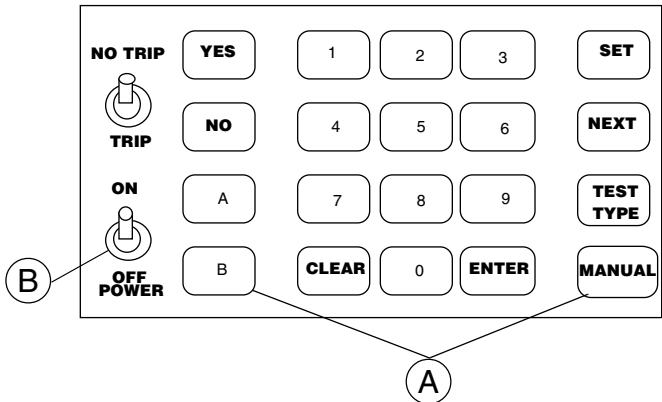

Figure 4: Test System Console
- b. “TEST SYSTEM KEY LIGHTS?-YES/NO” checks the systems key backlights for proper operation. If backlights are not being tested, press NO key. To check operation of backlights, which are located behind the eight system keys (A) in Figure 4, press YES key. The display will step through the test with lights flashing in sequence down the rows. If display indicates “SYSTEM LIGHTS TEST FAILED,” see step 10A.
11. Turn test set power switch (B) in Figure 4 to OFF.